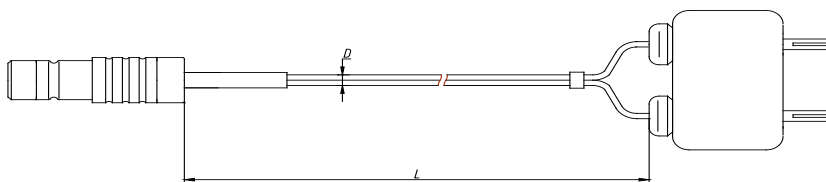

Fig.9 Diagram of Cordfor Bipolar
H. The outline structure of Cordfor Bipolar are shown in Fig.9 and Table 9.